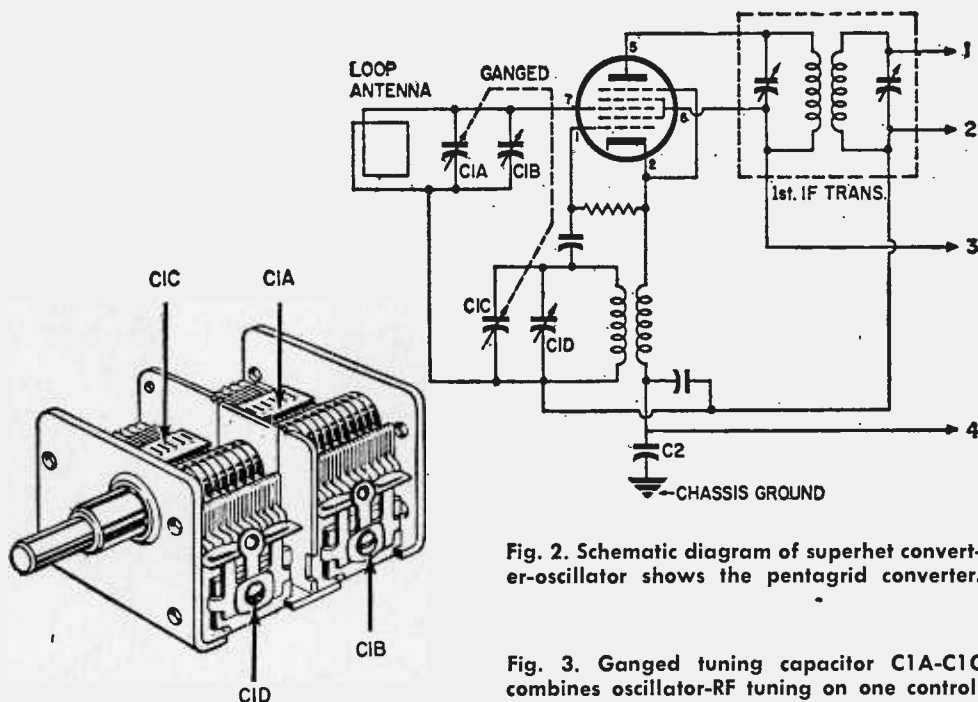
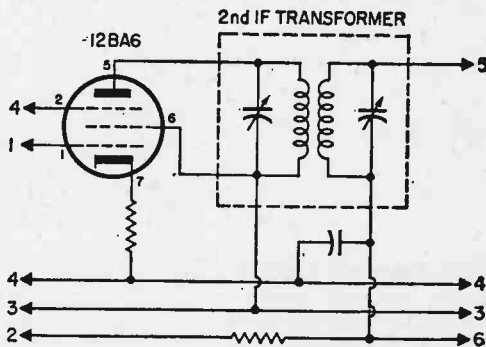

Fig. 2. Schematic diagram of superhet converter-oscillator shows the pentagrid converter.
Fig. 4. IF amplifier tube 12BA6 boosts signal; second IF transformer increases selectivity.
**Typical 5-Tube Superhet.** The first tube of the superhet (see Fig. 2) serves several functions. First, it is the oscillator—pins 1 and 2. Then, it receives the RF signal at pin 7. Finally, the two signals mix through the maze of grids to give the final IF frequency—455 kHz at the plate. The first IF transformer is tuned to this 455 kHz. Other RF frequencies that happen to get to the plate circuit are bypassed to ground via the power supply by the action of the 1st IF transformer.
In Fig. 4, a simple IF amplifier stage using the 12BA6 and a second IF transformer, is shown. These are used to amplify the signal from the converter and first IF transformer and provide better selection of the IF frequency. These, in turn, are connected to the detector diodes in the 12AV6, the triode voltage amplifier in the 12AV6 and finally the power amplifier 50C5 which drives the speaker. All this is shown in Fig. 5.
The various interconnections between sections are self-evident. Lead 1 is the link connecting the output from the IF transformer in Fig. 2 to the input of the IF amplifier tube in Fig. 4. Lead 3 in Fig. 2, 4, 5 and 6 is used to interconnect the B+ supply to all stages. Lead 4 in these figures is the common B- ground. (Turn page)
Lead 5 in Figs. 4 and 5 connect the second IF transformer to the detector, while lead 6 connects the audio to the volume control through a resistor.